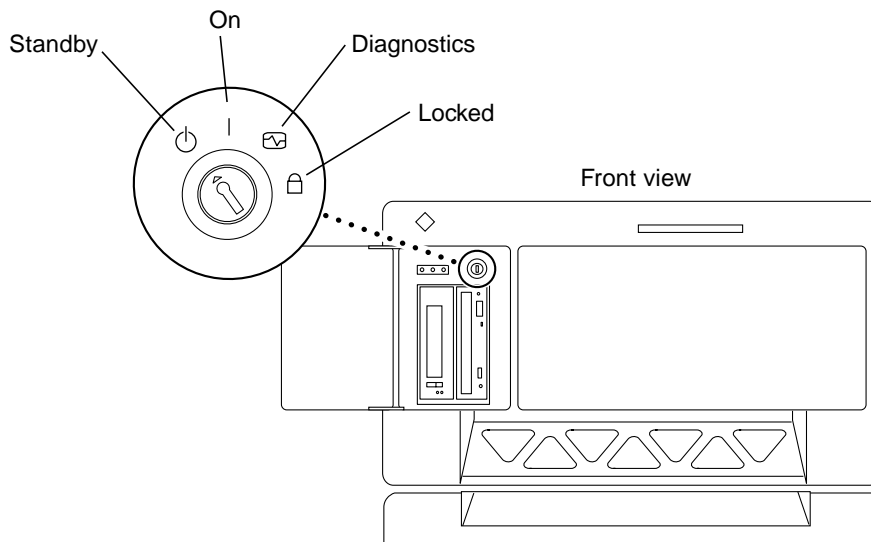

FIGURE 5-1 Sun Enterprise 6x00, 5x00, 4x00, 3x00 Keyswitch Locations
When the switch is set to the Locked position (FIGURE 5-1), the flash PROM is write-protected. When the switch is set to the On position or to the Diagnostics position, the flash PROM is write-enabled.
FIGURE 5-1 shows the keyswitch positions on a 16-slot Sun Enterprise 6000 system. The server systems described in this section have the same keyswitch positions.
- Turn the keyswitch to the On or Diagnostics position (FIGURE 5-1) before updating the flash PROM.